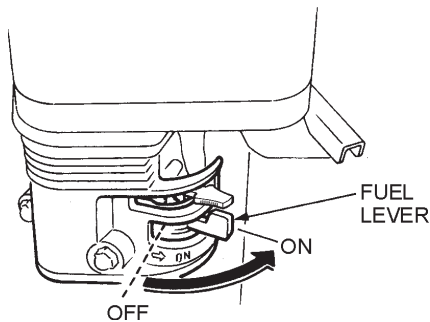

Figure 10. Fuel Valve Lever
1. Place the **fuel valve lever** (Figure 10) in the "ON" position.
3. Place the **fuel valve lever** (Figure 10) in the "OFF" position.